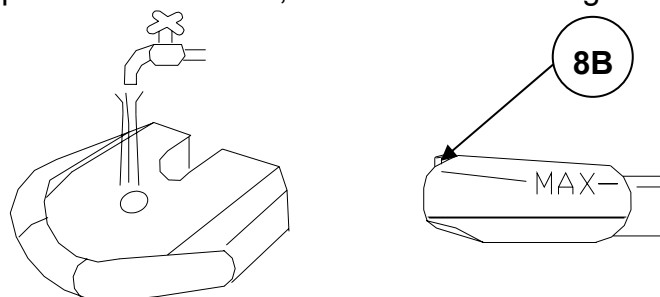

Fig. 2
2. Slide out the water tank (8A) from under the iron stand (8). (Fig. 2)